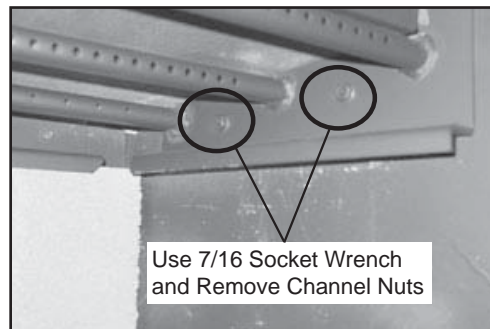

Figure 20.2
3. Remove the 2 channel nuts (7/16) and 2 bolts (3/8) inside of chamber. **Figure 20.2**